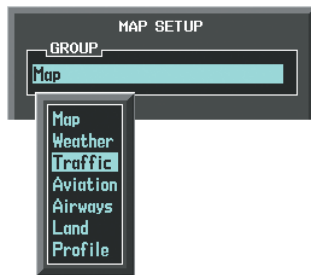

Figure 6-175 Navigation Map Page Setup Menu
- 4) Turn the small **FMS** Knob to select the Traffic Group and press the **ENT** Key (Figure 6-175).